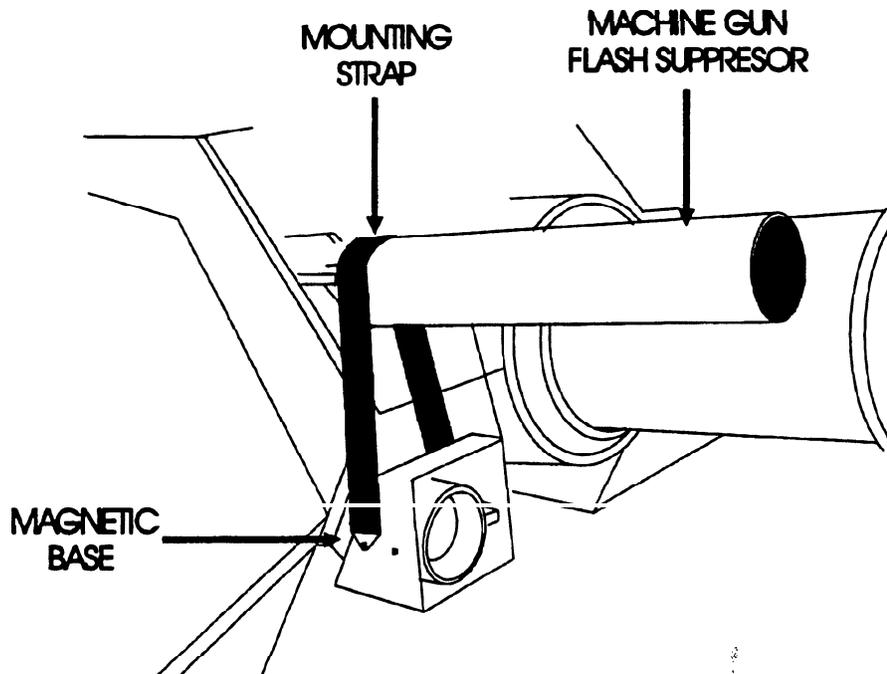

Figure 2-66. GAS Collimator Lens
2.4.7.5.4 GAS Collimator Lens Installation. Install the GAS collimator lens assembly (Figure 2-66) as follows: